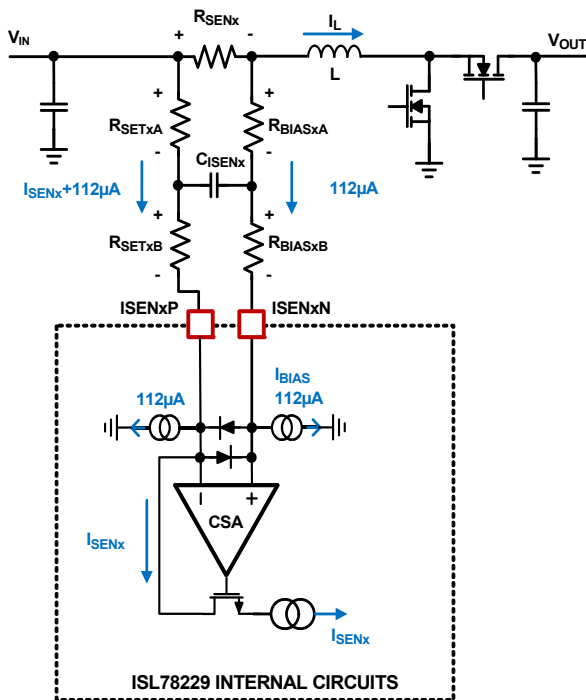

FIGURE 69. CURRENT SENSING BLOCK DIAGRAM
The ISL78229 peak current control architecture senses the inductor current continuously for fast response. A sense resistor is placed in series with the power inductor for each phase, and the ISL78229 Current Sense Amplifiers (CSA) continuously sense the respective inductor current as shown in Figure 69 on page 32 by sensing the voltage signal across the sense resistor R_{SENx} (where “x” indicates the specific phase number and same note applied throughout this document). The sensed current for each active phase is used for peak current mode control loop, phase current balance, individual phase cycle-by-cycle peak current limiting (OC1), individual phase overcurrent fault protection (OC2), input average Constant Current (CC) control and average overcurrent protection (OC_AVG), diode emulation, and phase drop control. The internal circuitry shown in Figure 69 represents a single phase. This circuitry is repeated for each phase.
The RC network between R_{SENx} and ISENxP/N pins as shown in Figure 69 is the recommended configuration. The ISENxP pin should be connected to the positive potential of the R_{SEN_CHx} through resistor R_{SETx} , where in Figure 69 R_{SETx} is composed by R_{SETxA} plus R_{SETxB} . R_{SET} is used to set the current sense gain externally.
Because there is a 112μA bias current sinking to each of the ISENxP and ISENxN pins, R_{BIASx} with the same value to R_{SETx} should be placed between the ISENxN pin to the low potential of the R_{SENx} , where in Figure 69 R_{BIASx} is composed by R_{BIASxA} plus R_{BIASxB} .
It is recommended to have $R_{SETxA} = R_{BIASxA}$ and $R_{SETxB} = R_{BIASxB}$, and insert a capacitor (C_{ISENx}) between them as shown in Figure 69. This forms a symmetric noise filter for the small current sense signals. The differential filtering time constant equals to $(R_{SETxA} + R_{BIASxA}) \cdot C_{ISENx}$. This time constant is typically selected in range of tens of ns depending on the actual noise levels.